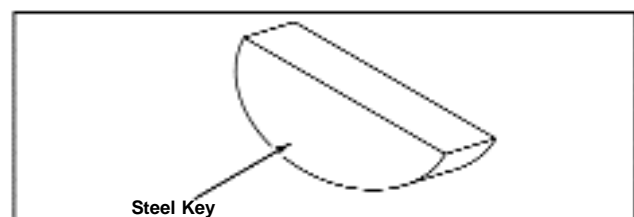

Figure 64 - Inspect Flywheel Key
5. Turn screw retainer nuts up until 1/2" of threads are exposed, Figure 64. Then, install flywheel puller turning screws until nuts bottom.
Inspect flywheel key for partial or complete shearing. If sheared, replace, Figure 64. Flywheel should be inspected for cracks, burrs on taper or keyway, and distortion of keyway. Also, check taper of crankshaft for burrs, rust, or other damage. Check fan or flywheel for broken fins. If parts are damaged, replace with new parts.
Note: On 9 and 13 H.P. engines, use only the BRIGGS & STRATTON STEEL KEY. DO NOT use substitutes. See Figure 64.